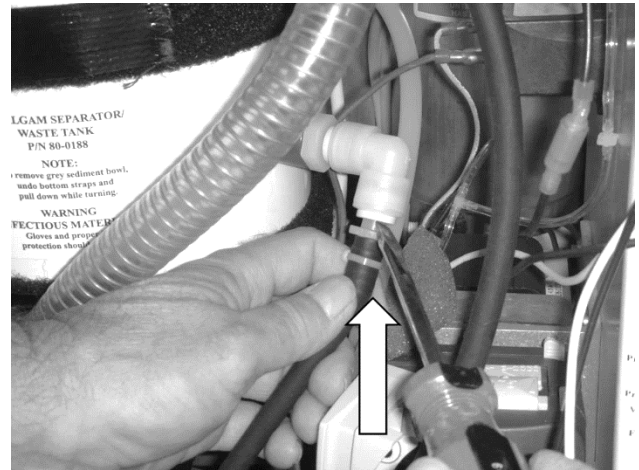

Fig. 5
- 6 Insert the head of a flat head screwdriver between the white plastic adapter and the white plastic connector on the tubing. Depress white ring while pulling down on the tubing. (Fig. 5)
- 8 Follow the black or beige tubing to where it connects behind the port labeled, "Central Suction Quick Connect". The connector is the same as shown in Fig. 5. Disconnect the adapter and tubing the same as Step 6. (Fig. 6)